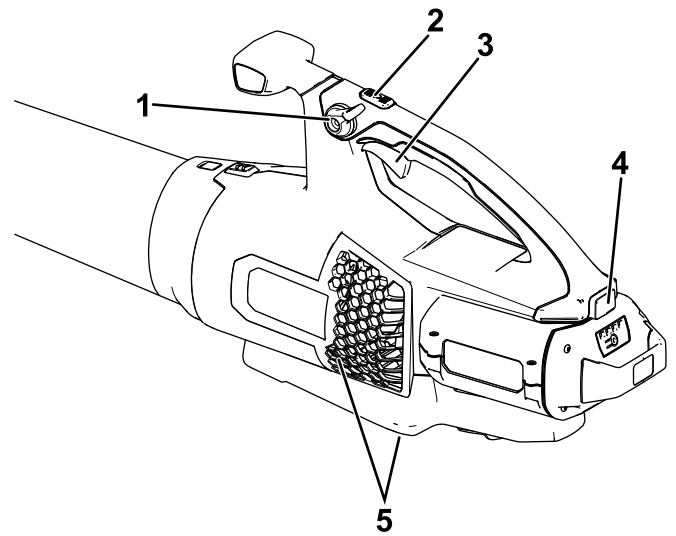

Figure 4
4. To start the blower, squeeze the variable-speed trigger (Figure 4).
Note: Engage the speed lock to keep the machine on without pressing the variable-speed trigger (Figure 4).
To achieve maximum performance (air speed), fully depress the variable-speed trigger, then press and hold the turbo boost button for the desired amount of time (Figure 4).
To adjust the air speed as you blow, use the variable-speed trigger (Figure 4).
To maintain the current air speed, engage the speed lock (Figure 4).
To shut off the blower, disengage the speed lock (if in use) and release the variable-speed trigger (Figure 4).